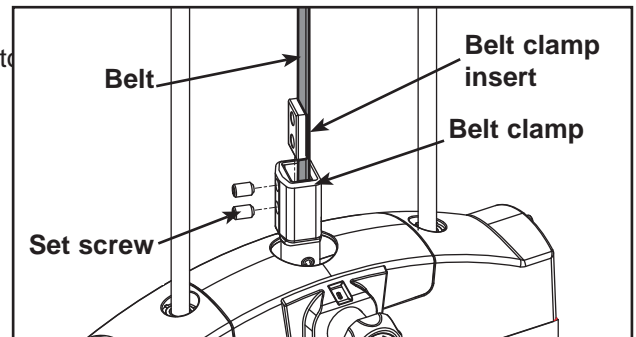

Figure 12
- E. Pull belt tight and secure belt to clamp with the two set screws. **NOTE:** Torque set screws 300-350in./lbs. See Figure 12.